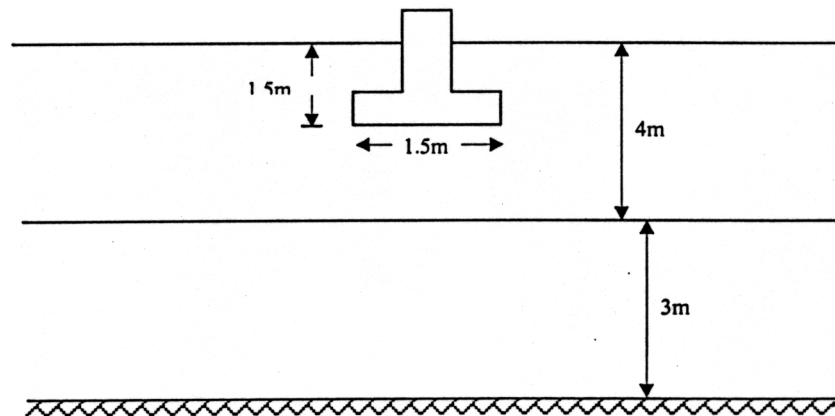

Figure Q.1
1. A 1.5m wide strip footing illustrated on Figure Q.1 is set 1.5m deep in a 4m thick sand layer. The sand is underlain by a 3m thick firm clay deposit, which lies on a rigid permeable rock substratum. The following properties have been determined for the subsurface: